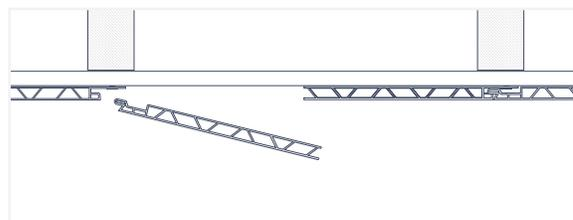

Fig. 39
3. The side of the panel with the tongue should easily slide out of the adjacent panel (Fig. 39).